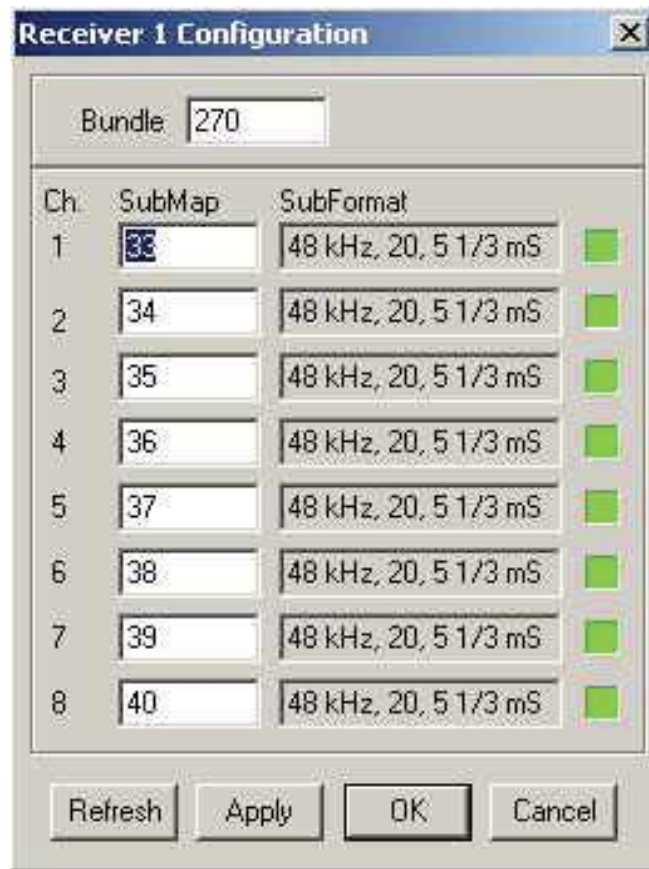

Figure 1-3: CobraNet™ Receiver settings page
- Receiver setup: This section covers the CobraNet™ receivers (see Figure 1-3). The CS496112 chipset allows for up to 8 receivers, each of up to 8 channels, subject to an overall channel count of 2 analog output channels and 8 network audio streaming channels.. The settings are:-